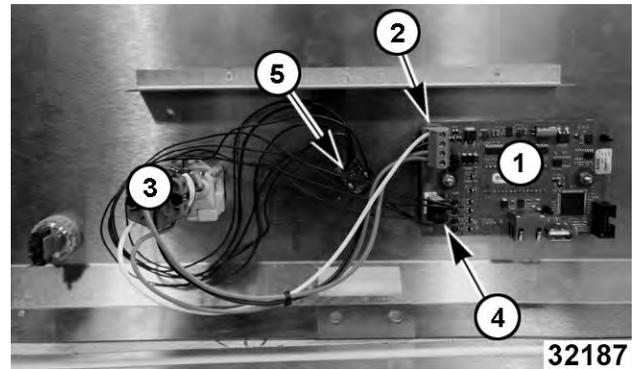

Fig. 10
2. Press release tab and pull down to disconnect the RJ45 data cable from facia board (1, Fig. 10).
3. Pull connector plug (2, Fig. 10) straight back to disconnect selector switch (3, Fig. 10) from Facia Board.
4. Pull plug (4, Fig. 10) up and slightly sideways to disengage potentiometer (5, Fig. 10) retention clip.